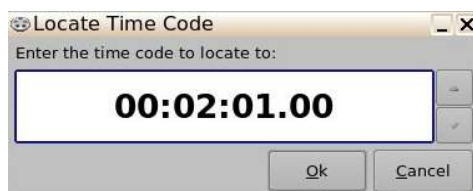

Figure 75: Locate Time Code Window
- Enter the desired time code value or use the two arrows on the right and click the OK button (Figure 75).